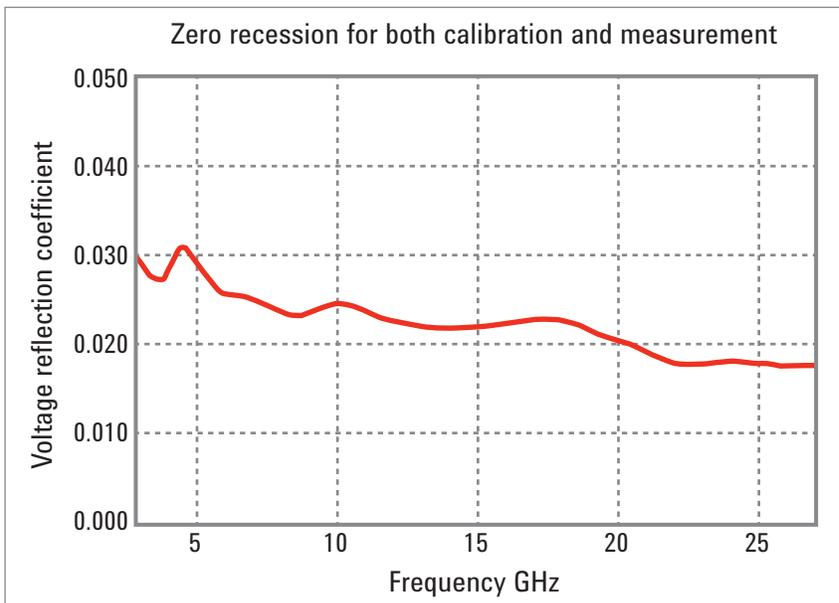

Figure 2.
**Figure 2** forms the reference for the following measurements and is shown on all plots as the red line. It was performed with both the calibrating and measured sliding load set to zero recession. This is considered to be the correct representation of the voltage reflection coefficient (VRC) of the tested sliding load.